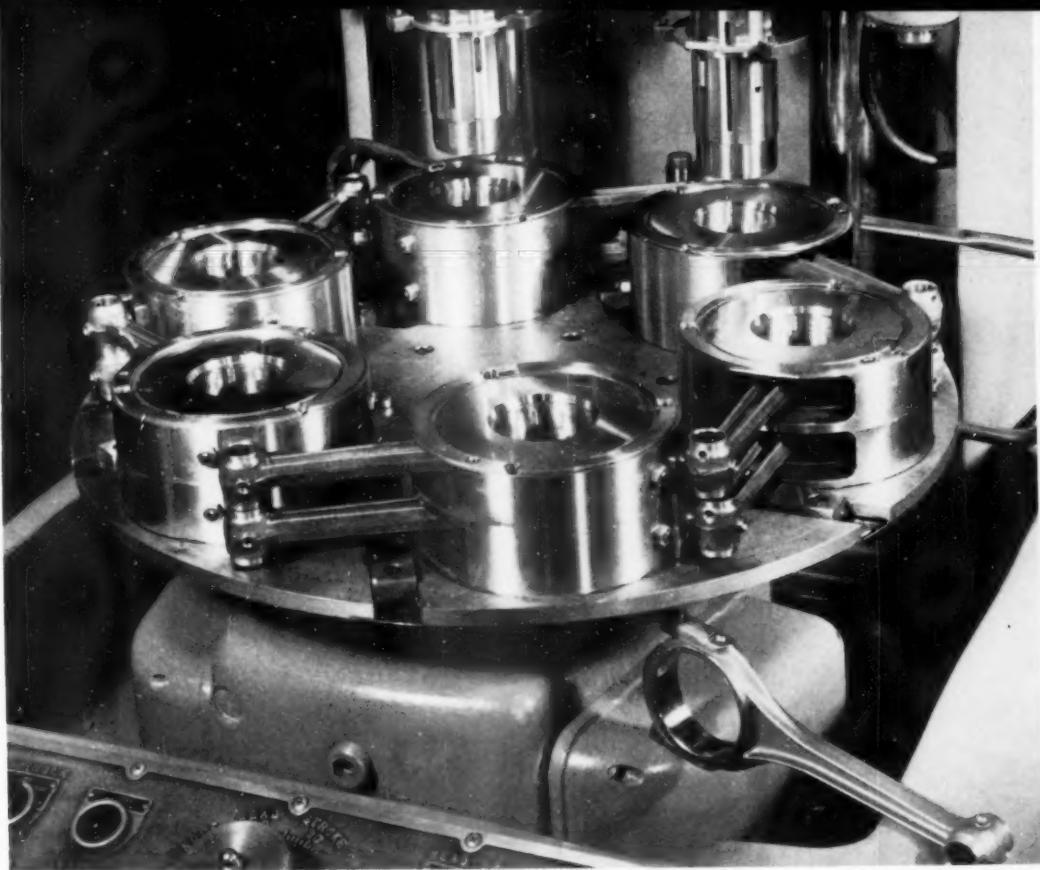

Fig. 4. Fixtures with full gimbals mounted on a rotary index table. Variations of squareness between
Fig. 4. Fixture for wire brushing cylindrical parts. Tube is inclined and parts travel through by gravity. As parts pass opening, they are deburred by a high-speed wire brush. Time of brush contact is determined by tube angle.
**Wire Brushing:** Adoption of the fixture shown in *Fig. 4* eliminated a considerable safety hazard caused by the old method of wire brushing small parts. The old method required that the operator hold the parts to be brushed in contact with a rotating wire brush. This frequently caused the parts to be thrown from the operator's hands and required close proximity of hands to the brushing tool.
Parallel plate fixturing is used most extensively on parts that have a large diameter compared to their height. If the faces of the part are not square, the parallel plate fixture may be put into a gimbal, as shown in *Fig. 4*. In this way, the fixture cocks with each reciprocation and eliminates the twisting action on the part.